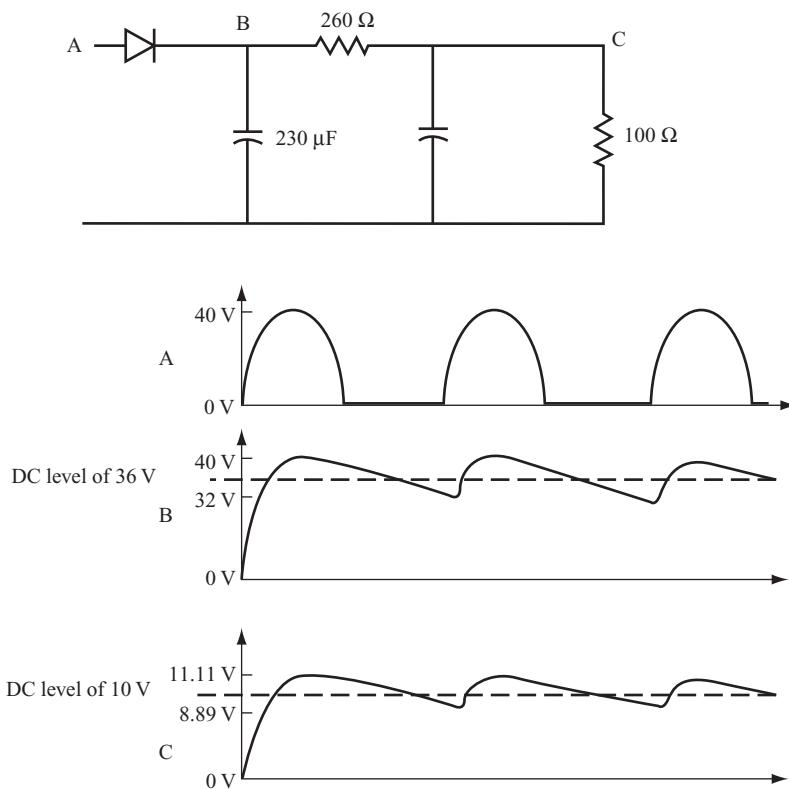

FIGURE 11.43
23 Figure 11.43 shows voltage waveforms at various points in the half-wave rectifier circuit.
NOTE This result means that the addition of C_2 lowers the AC ripple shown by curve C in Figure 11.43, with peak values of 11.11 and 8.89, to values of 10.155 and 9.845 volts. This represents a lower ripple at the output. Hence, C_2 aids the smoothing of the 10 volts DC at the output.
- A.** What is the average DC level for the half-wave rectifier at point B in Figure 11.43? _____